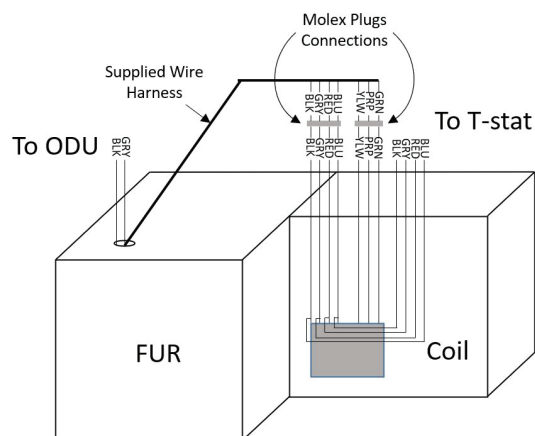

Figure 24
8. View Figure 24 for reference of Wire Harness Setup.
Typical wiring will consist of two wires between the indoor unit and outdoor unit and four wires between the indoor unit and thermostat. Figure 24 shows the required wires are: data lines, 1 and 2; "R" (24 VAC hot) and "C" (24 VAC common).